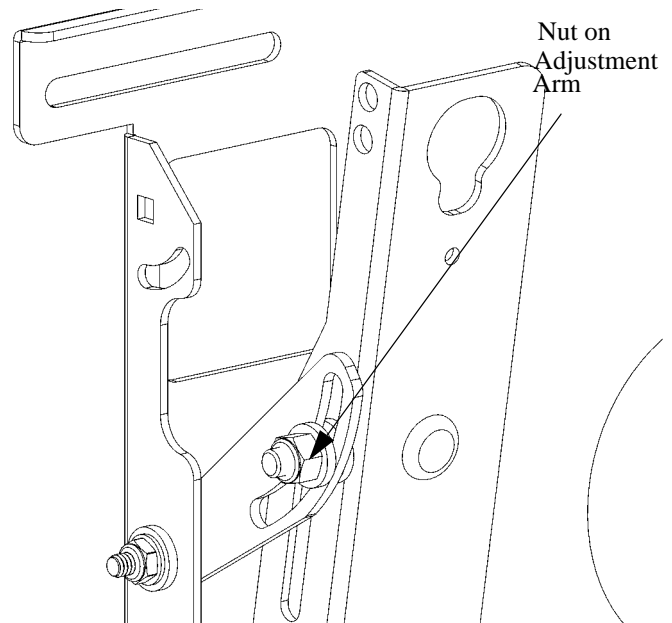

Figure 2. Adjustment arm
1. Loosen the nut, slightly, on each adjustment arm (Figure 2).
3. Tighten the nut on each adjustment arm (Figure 2).